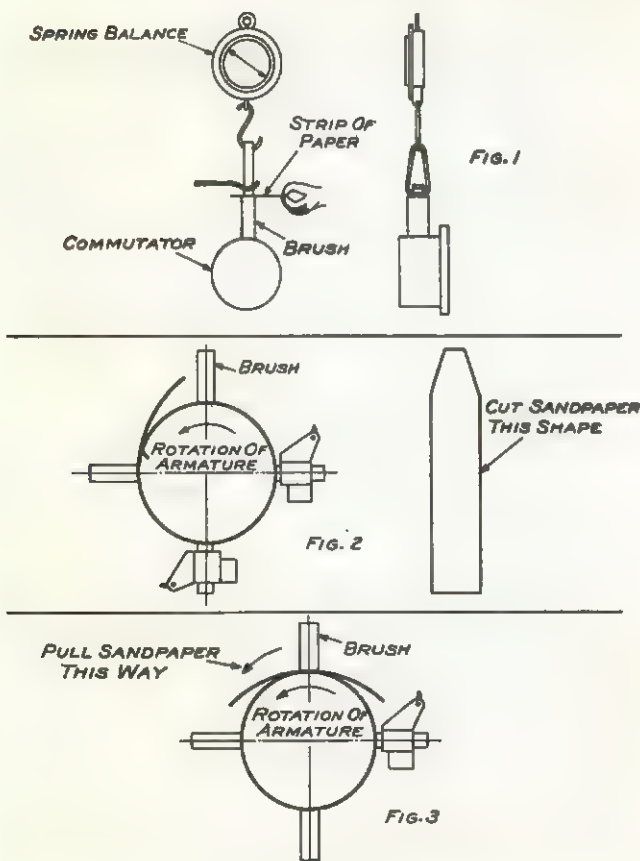

Fig. 6-8
8. Check brush-spring pressure by using a 15-pound fish scale. With a new brush in the holder, place a piece of paper between lever tip and top of brush. Read pressure on scale when pressure between lever assembly and brush is reduced only enough to free the paper. See Fig. 6-8.
When new brushes are installed, sand them in to fit the surface of commutator. Insert sandpaper between brush and commutator, with the rough side against the brush; see Fig. 6-8.